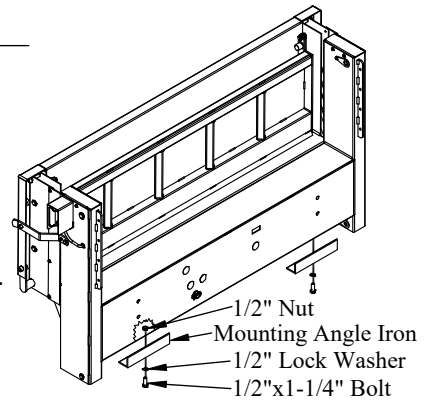

Figure 9: Mounting angle iron location.
- 1. Install** the two (2) mounting angle irons to the bottom of the liftgate (Figure 9).
- 2. Bolt** the bracket plates to the truck frame (Figure 9).